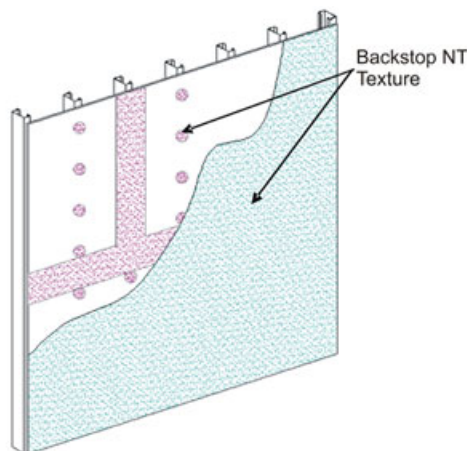

Figure 17
- 2) Allow to dry for a minimum of two (2) hours or until dry to the touch. **NOTE: Cool, humid conditions may require longer drying times**
- 3) Use a coarse, open-cell foam roller cover with a 3/8 in (9.5 mm) foam nap (FoamPRO #58 roller). Apply a uniform, continuous film of Backstop NT – Texture over the entire surface of the sheathing, concrete or masonry, including the previously treated areas – Figure 17. **NOTE: If the roller pulls material back out of the sheathing joints, it indicates that the joint material is not sufficiently dry.**
- a) For concrete and masonry, ensure that a continuous film of uniform thickness is applied across the entire surface and across mortar joints. Minimum two (2) coats are required allowing a minimum of two 2 hours between coats. Cool, damp weather may require longer time between coats.